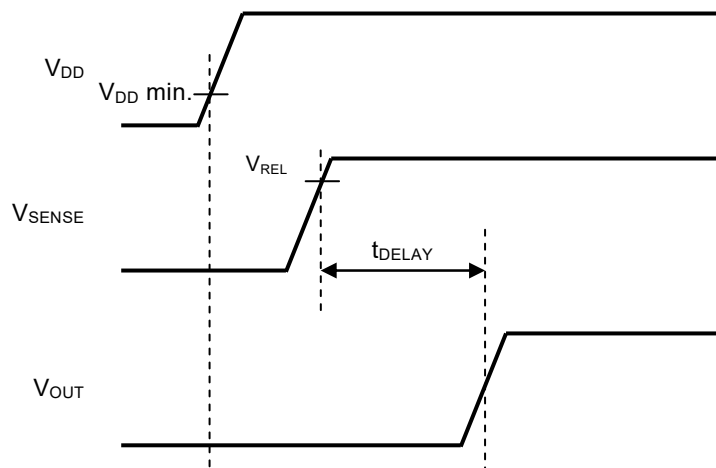

Figure 23
- (1) Order of VDD pin and SENSE pin (Refer to **Figure 23**)
- (2) VDD pin and SENSE pin at the same time